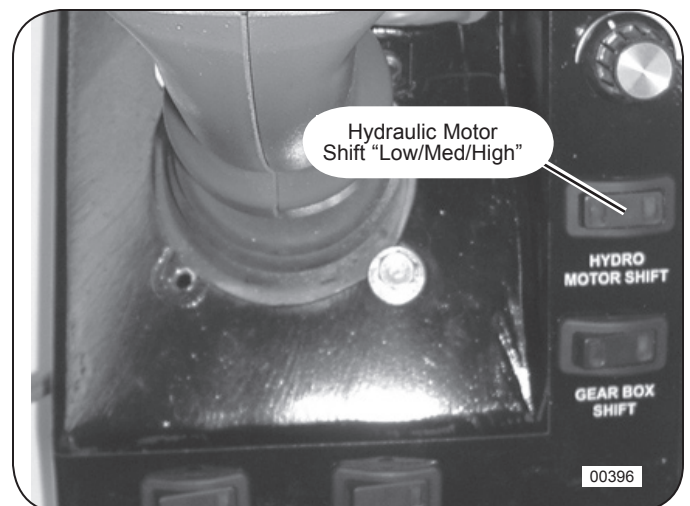

Figure 14: Hydraulic Motor Shift Control
7. Start engine and set the hydraulic motor shift control to the "OFF" or "High" position. See Figure 14.